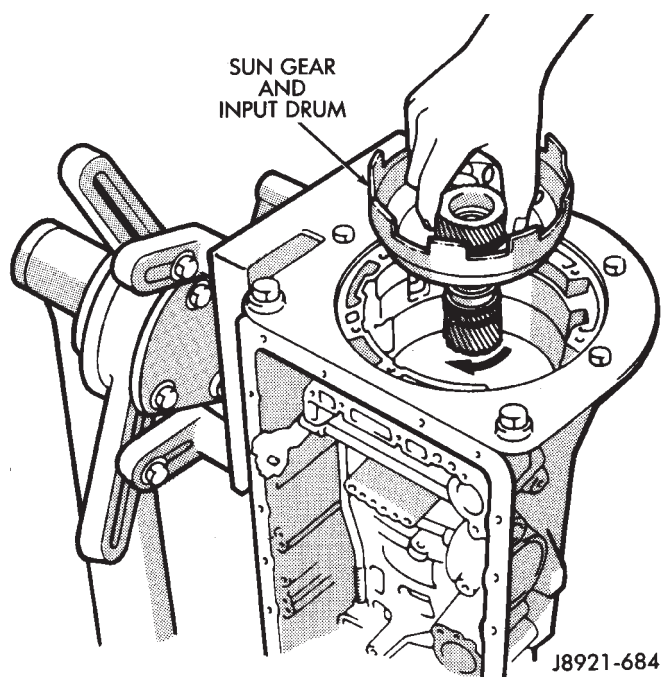

Fig. 17 Installing Sun Gear And Input Drum
(22) Install planetary sun gear and input drum (Fig. 17). Be sure drum thrust washer tabs are seated in drum. Use petroleum jelly to hold thrust washer in position if necessary.